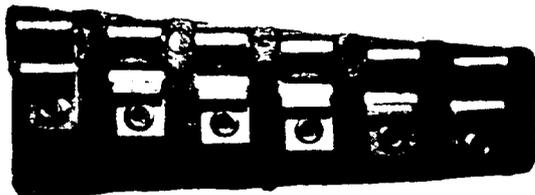

Figure 1 — DX-1041 Connector
2.01 The DX-1041 intercepting connector is used with the new-type terminal strips where each terminal is higher than the one in front of it. (See Figure 1.)